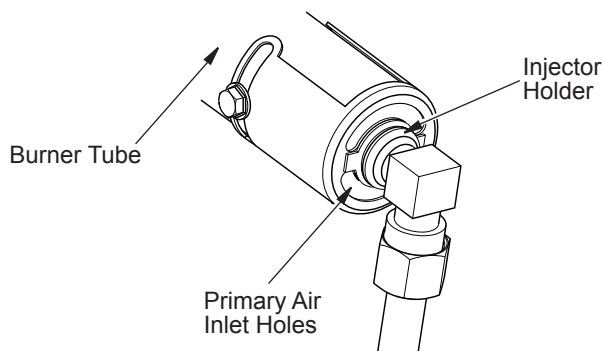

Figure 31 - Injector Holder On Outlet Burner Tube
2. Inspect burner, pilot and primary air inlet holes on injector holder for dust and dirt (see **Figure 31, Page 17**).